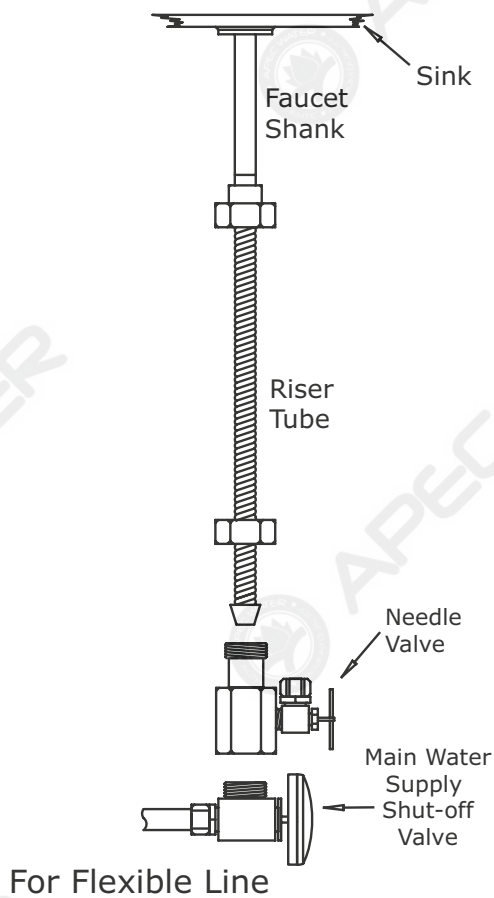
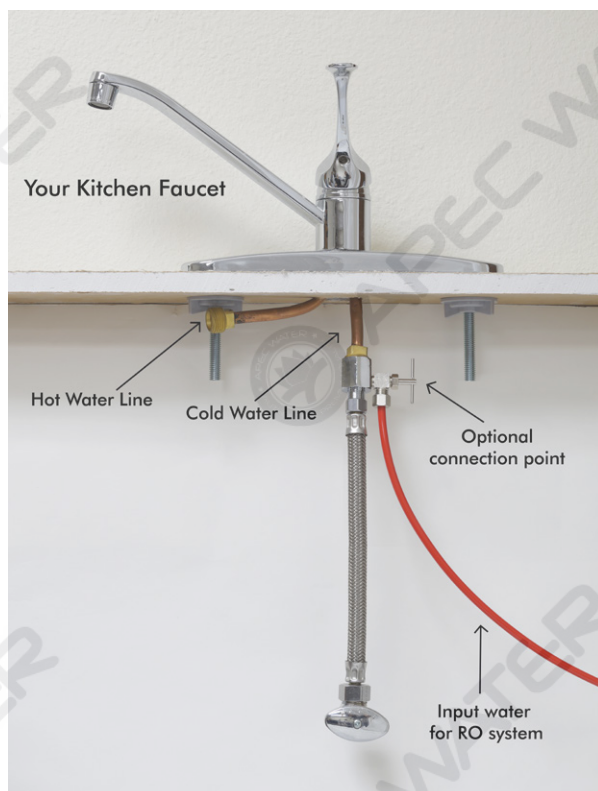

Fig. 5A
Fig. 5E
3. **Recommend Connection For Flex Line Riser:** See **Fig. 5A.** & **Fig. 5E** Loosen nut and separate cold water riser tube from shut off valve. Gently bend riser tube so that the Feed Water Adapter (**Fig. 1**) fits onto the shut off valve. Connect the riser tube, feed water adapter, and shut off valve together and **tighten.**